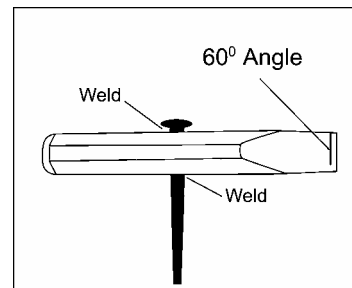

Figure 4.4
- Grind a 60° angle on the chipping end of the hammer, as shown in Figure 4.4.
- Insert the $\frac{3}{8}$ " round rod in the hole in the 1" rod and weld it where it enters and exits the larger rod, as shown in Figure 4.4.